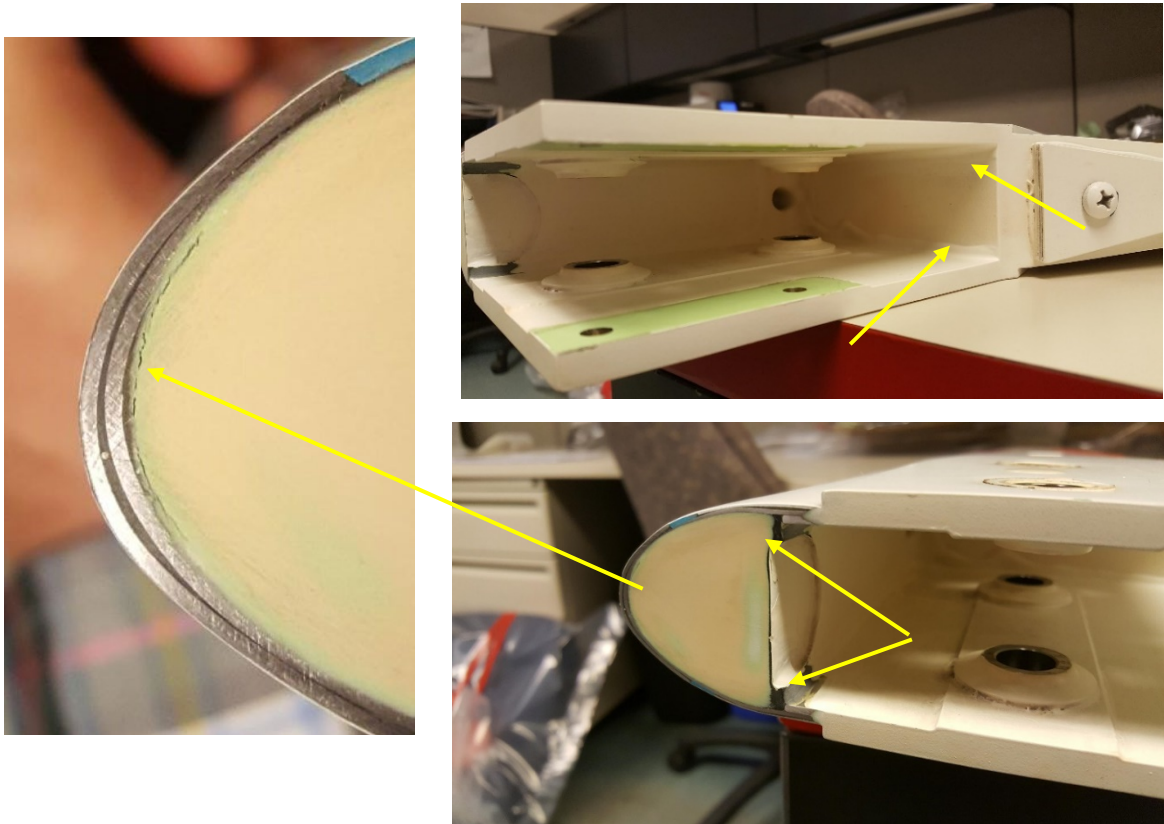

Figure 1. Areas where cracks can be found.
Bell has received reports of tail rotor blades failing the leak check required per the applicable Maintenance Manual (MM) when suspected cracks are found in the blade root end cuff area. In some cases, due to misinterpretation of the results, blades rejected due to indications of air bubbles were in fact serviceable. Figure 1 below shows some areas where cracks can be found. The cracks found in the root end cuff area are usually limited to the adhesive squeeze-out produced during manufacturing and are not necessarily an indication of a bonded joint failure.